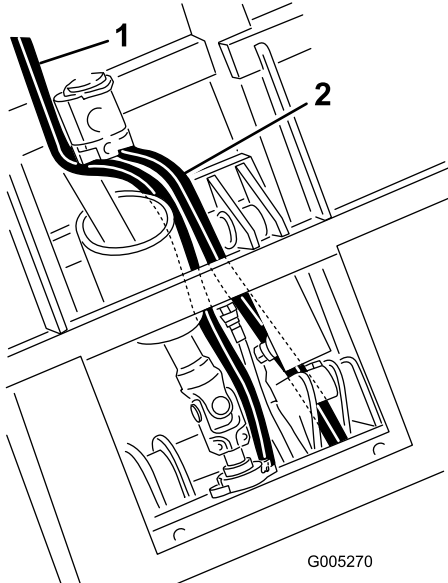

Figure 110
- Route the tank hose under the lift cylinder and between the cylinder mounting brackets to the valve (Figure 110).
- Route the pressure hose along side the PTO shaft to the valve (Figure 110).